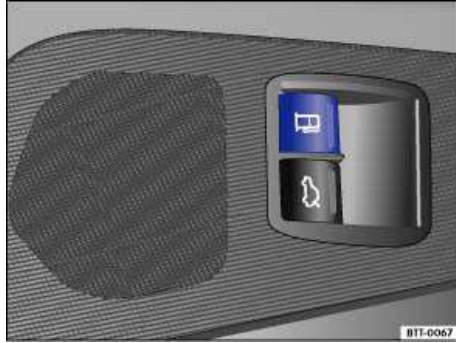

Fig. 161 In driver door: Release switch for fuel filler flap.
- ☐ Pull the release switch  in the driver door upwards ⇒ fig. 161.